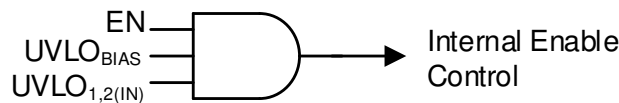

図 6-3. Simplified Turn-On Control
Controlling when a single power supply turns on can be difficult in a power distribution network (PDN), because of the high power levels inherent in a PDN and the variations between the supplies. As shown in 図 6-3 and 表 6-2, the LDO turn-on and turn-off time is set by the enable circuit (EN) and undervoltage lockout circuits ($UVLO_{1,2(IN)}$ and $UVLO_{BIAS}$).